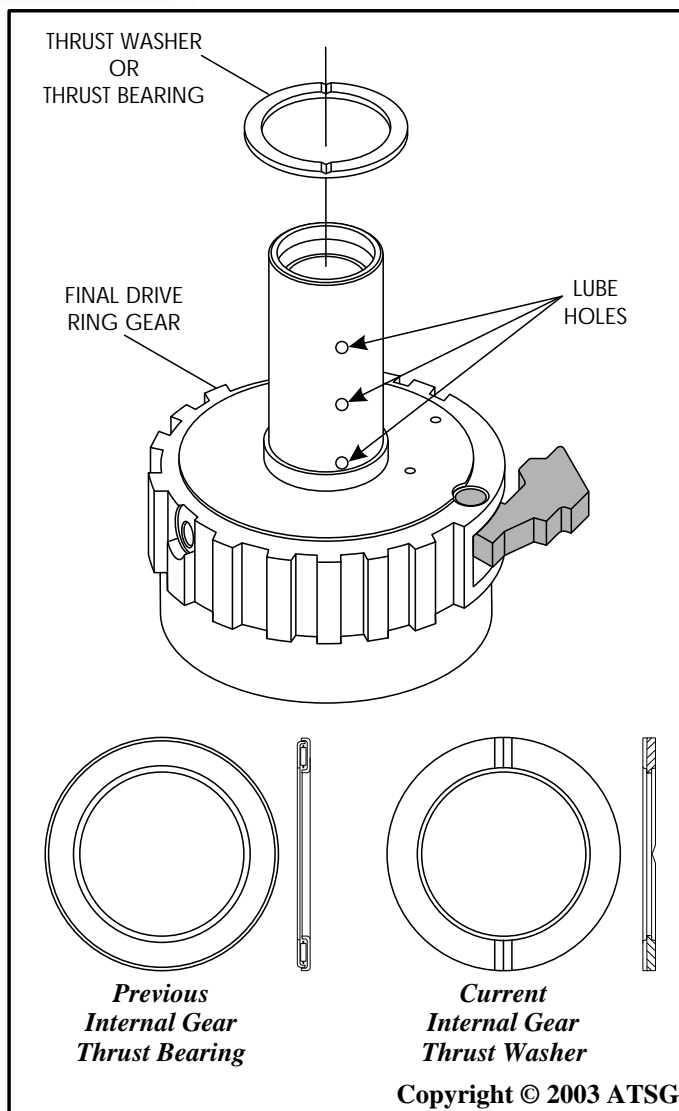

Figure 98
2. Ensure that lube holes are free and open, as shown in Figure 98.
3. Install the thrust bearing or the thrust washer, as shown in Figure 98. The thrust bearing was replaced by the thrust washer in 1994, either can be used in the 4T60-E transaxle.